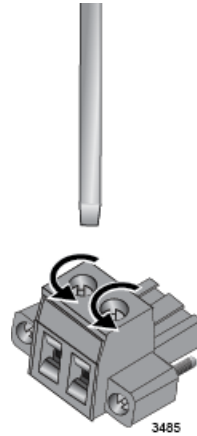

Figure 40. Loosening the Captive Screws on the DC Connector
4. Use a 3mm (0.125 in.) flat-head screwdriver to loosen the two captive screws on the top of the DC connector. Refer to Figure 40 on page 86.